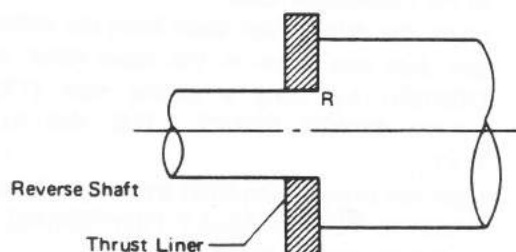

Fig. 14
- Install the reverse shaft and the thrust liner with their inner diameter planed gear free-play in the direction of the thrust may be 0.00394 ~ 0.0118 in. (0.1 ~ 0.3 mm). Two kinds of thrust washer, 0.118 in. (3 mm) and 0.116 in. (3.2 mm), are provided. (Fig. 14)